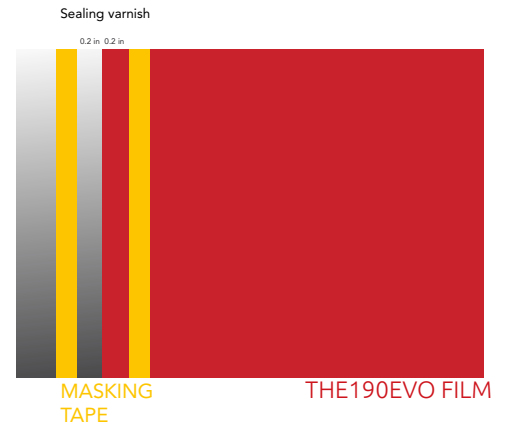

Figure 26
- 1 to THE190EVO at 5 mm (0.2 in.) from its edge. (FIG. 26)